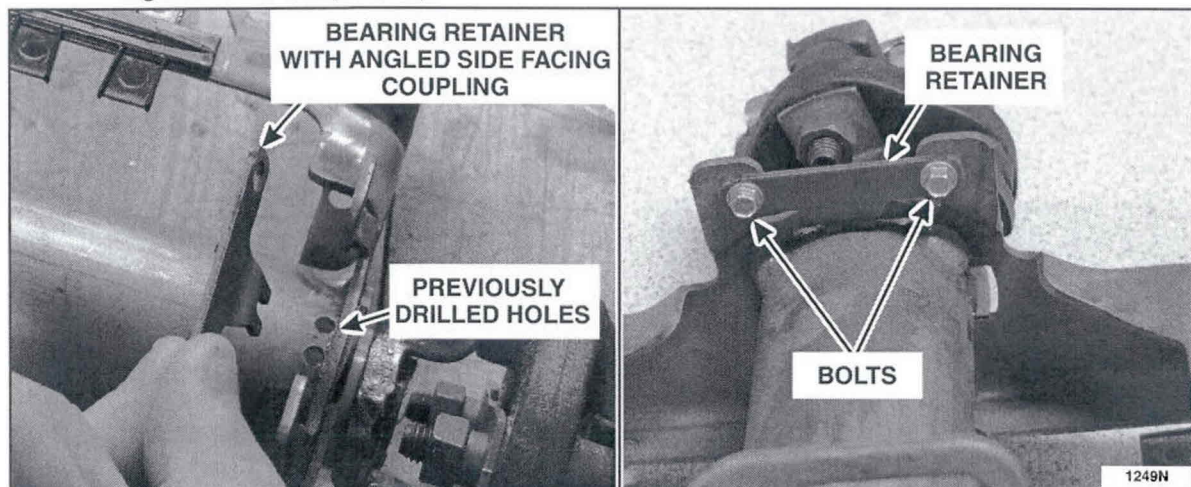

FIGURE 13
8. Position the bearing retainer to the upper steering shaft coupling with the angled side facing the steering column. Install the bearing retainer into the two previously drilled holes and install two supplied bolts. See Figure 13.